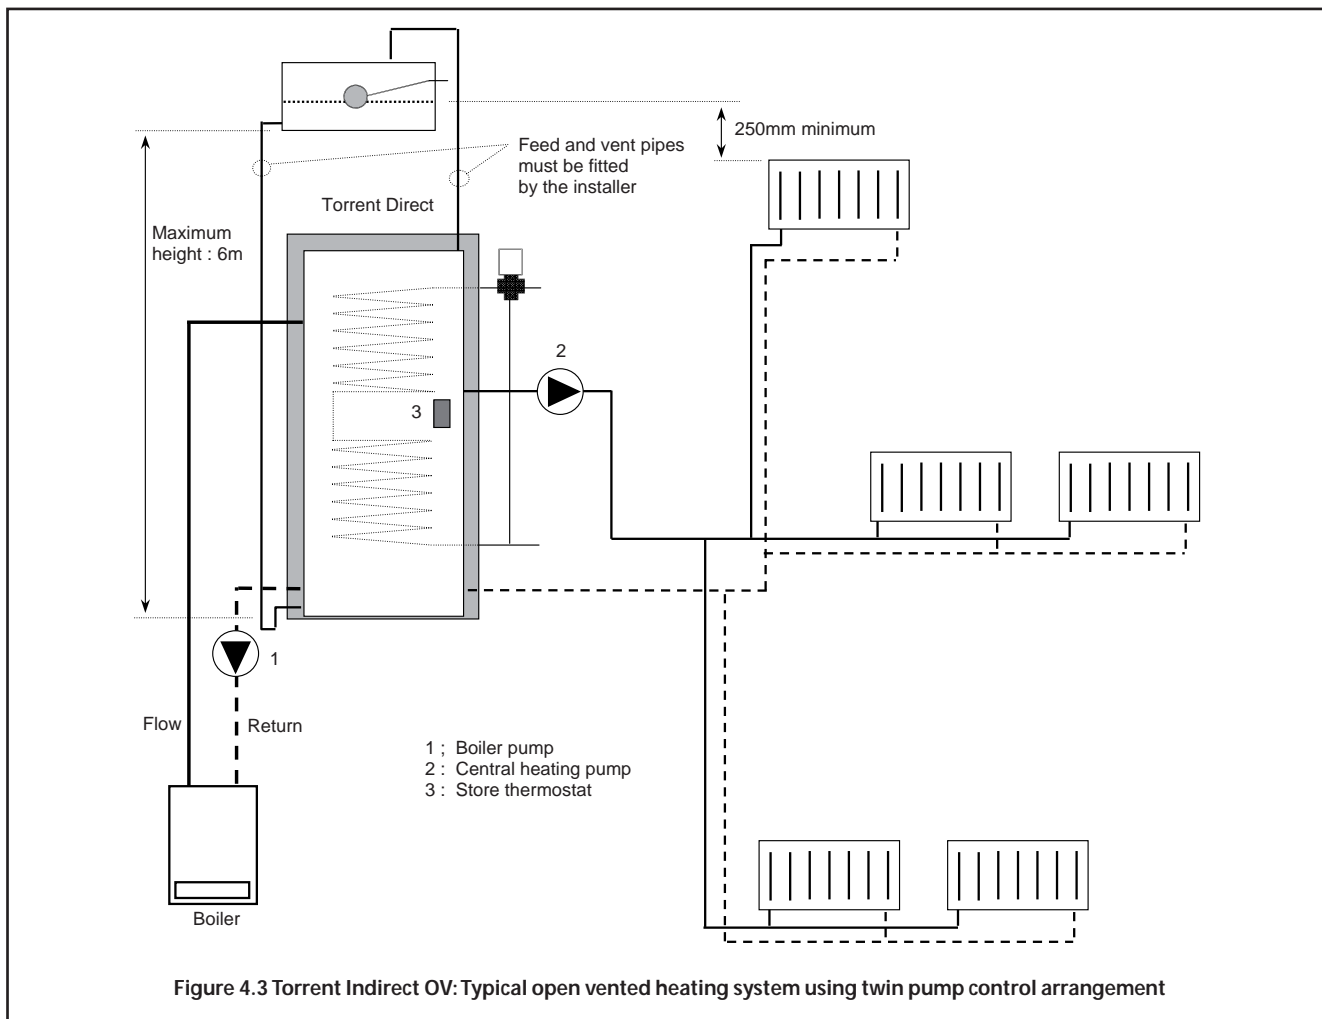

Figure 4.3 Torrent Indirect OV: Typical open vented heating system using twin pump control arrangement
- (b) The Torrent Indirect 'OV' models can be installed using both 'Y' Plan and 'S' Plan heating system controls as shown schematically in figures 4.2 and 4.4. These models can also be installed without either 3-port or 2-port valves using a separate central heating pump as shown in figure 4.3. In this case no bypass valve is required.